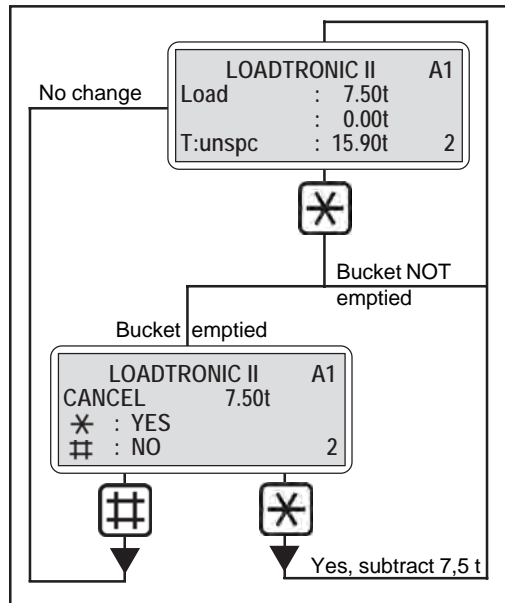

Figure 4.5.3: Cancelling weight
1. Empty the bucket and press  (the LOADTRONIC II requires acknowledgement that the weight of the bucket really is to be cancelled). See fig. 4.5.3.